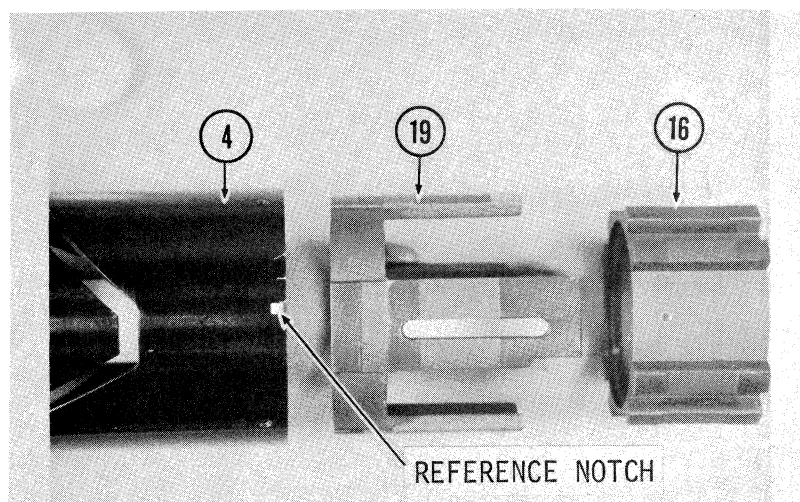

Fig. 11
- 2.1.9 Slide Third Zoom Group Housing (16) and then Second Zoom Group Housing (19) out rear of Lens Barrel. (Fig. 11)
NOTE: When reassembling these parts, they must be aligned as shown in Fig. 11; that is, slot in (19) must align with reference notch in (4) and with roller shaft hole in (16).
- 2.3.10.2 Align Second and Third Housings as shown in Fig. 11; slide Third Housing into Second Housing and this in turn into the Lens Barrel.